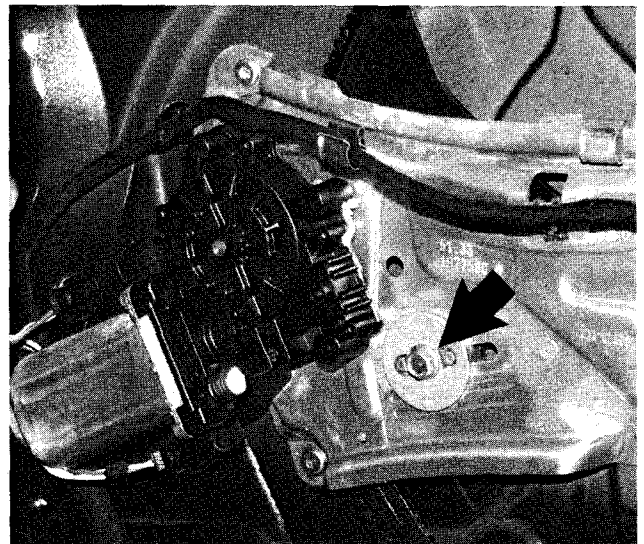

Fig. 4. Window regulator stop (arrow).
5. Loosen regulator stop at window regulator support. See Fig. 4.